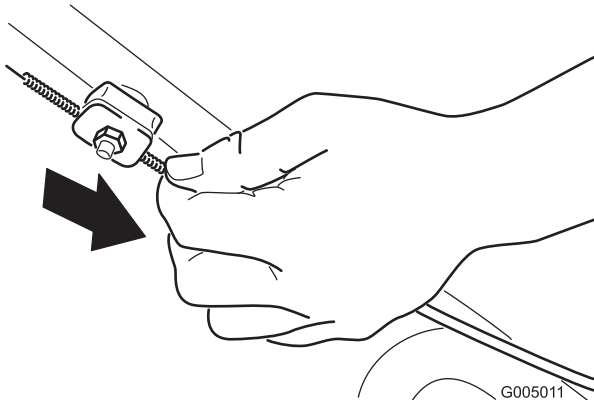

Figure 29
2. Pull down the cable jacket (toward the machine) until there is no slack in the cable (Figure 29).